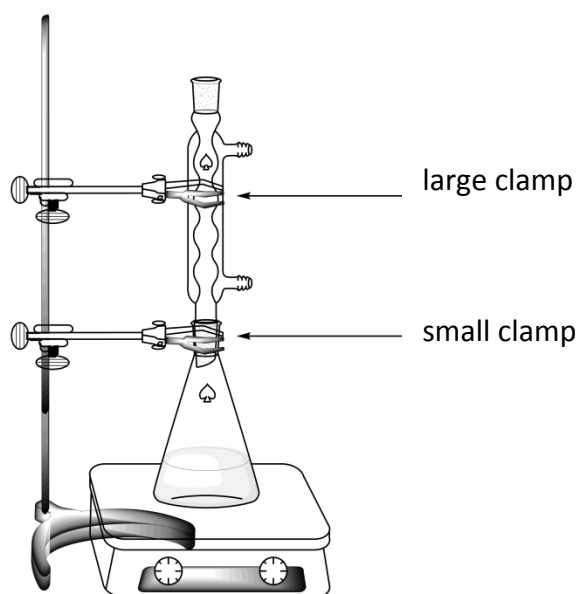

Figure 1. Setup for heating the reaction mixture under reflux
4. **Attach** the reflux condenser by loosening the large clamp and adjusting the ground glass joints (see Figure 1). **Raise** your HELP card. A lab assistant will come to turn on the water and set the hotplate.
2. **Recrystallise** the crude product contained in the 50 mL ground glass-joint Erlenmeyer flask with the appropriate amount (just enough) of this water/ethanol mixture. Use the same setup as for the reflux heating (see Figure 1). **Raise** your HELP card. A lab assistant will come to turn on the water and set the hotplate.